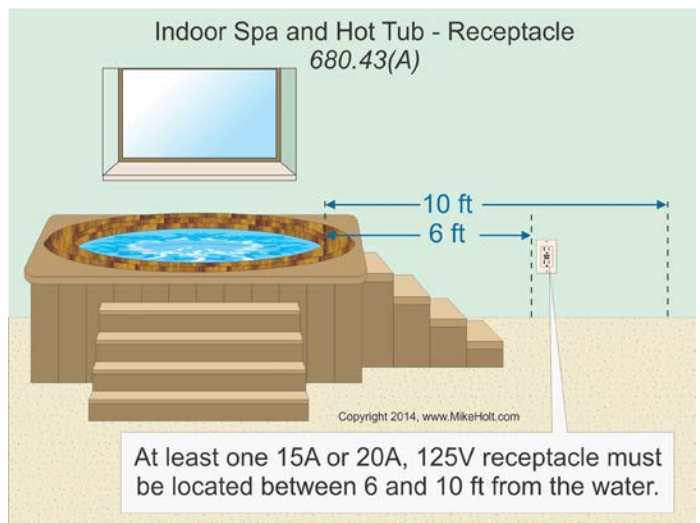

Figure 680-55
(A) Receptacles. At least one 15A or 20A, 125V receptacle must be located at least 6 ft, but not more than 10 ft, from the inside wall of the spa or hot tub. Figure 680-55